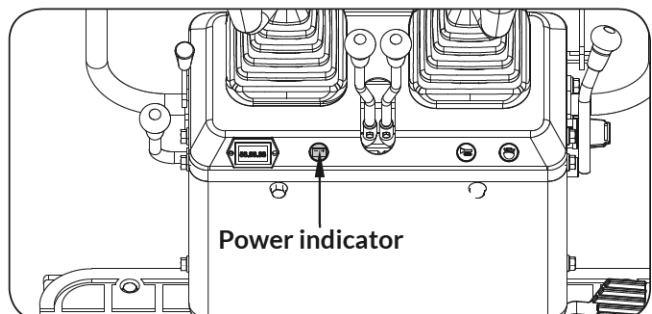

Figure 26
7. Check if power indicator have gone out. If the power indicator does not go out, stop the engine and check for the cause. (See **Figure 26**)